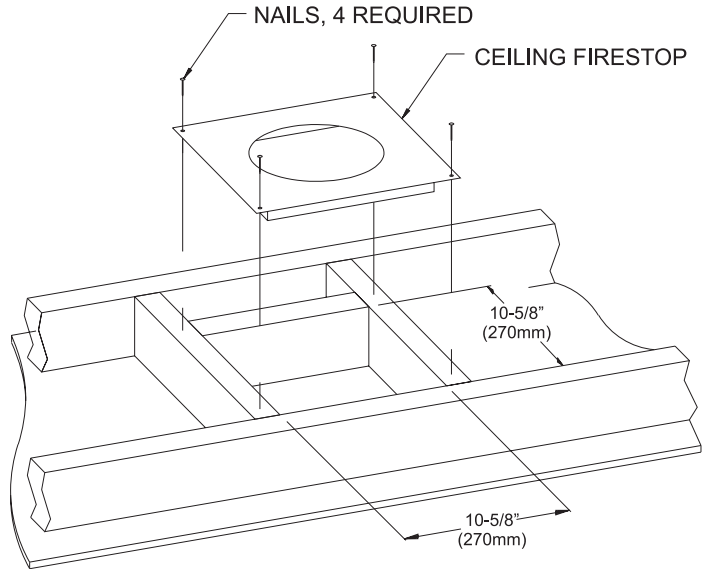
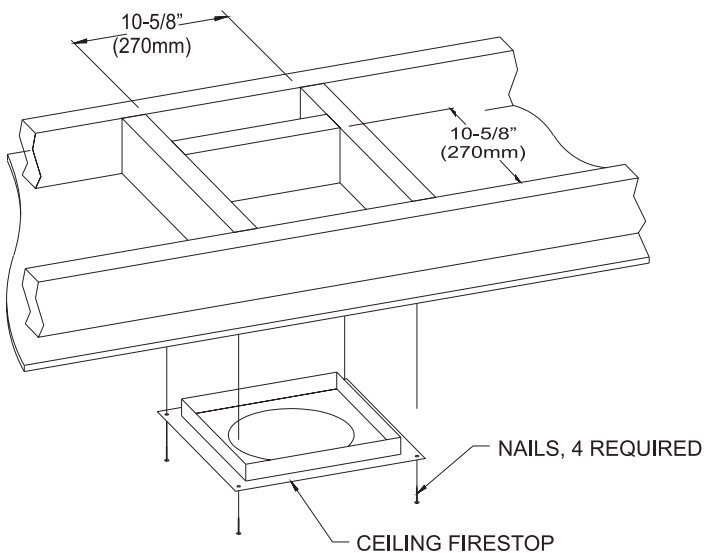

Figure 51
Figure 50
**See Figure 50.** If the area above the ceiling is an attic, position and secure the firestop on top of the previously framed hole. **See Figure 51.**